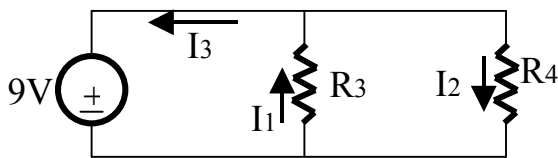

Figure 2: A parallel circuit
PL2. Consider the circuit shown in Figure 2 in which  $R_3 = 10\text{ k}\Omega$  and  $R_4 = 1\text{ k}\Omega$ . To the right of the figure and inside the box provided, draw the single-resistor equivalent circuit and include the value of the equivalent resistance.
**P3.** → Using your prototype board, construct the circuit shown in Figure 2 of the prelab ( $R_3 = 10 \text{ k}\Omega$ ,  $R_4 = 1 \text{ k}\Omega$ ). Use the lab power supply for the voltage source and use the multimeter to set the voltage accurately to 9 volts.
→ Redraw the circuit of Figure 2, indicating on the figure where you inserted the multimeter, including identifying clearly where the red and black wires were attached, when you measured  $I_1$ .